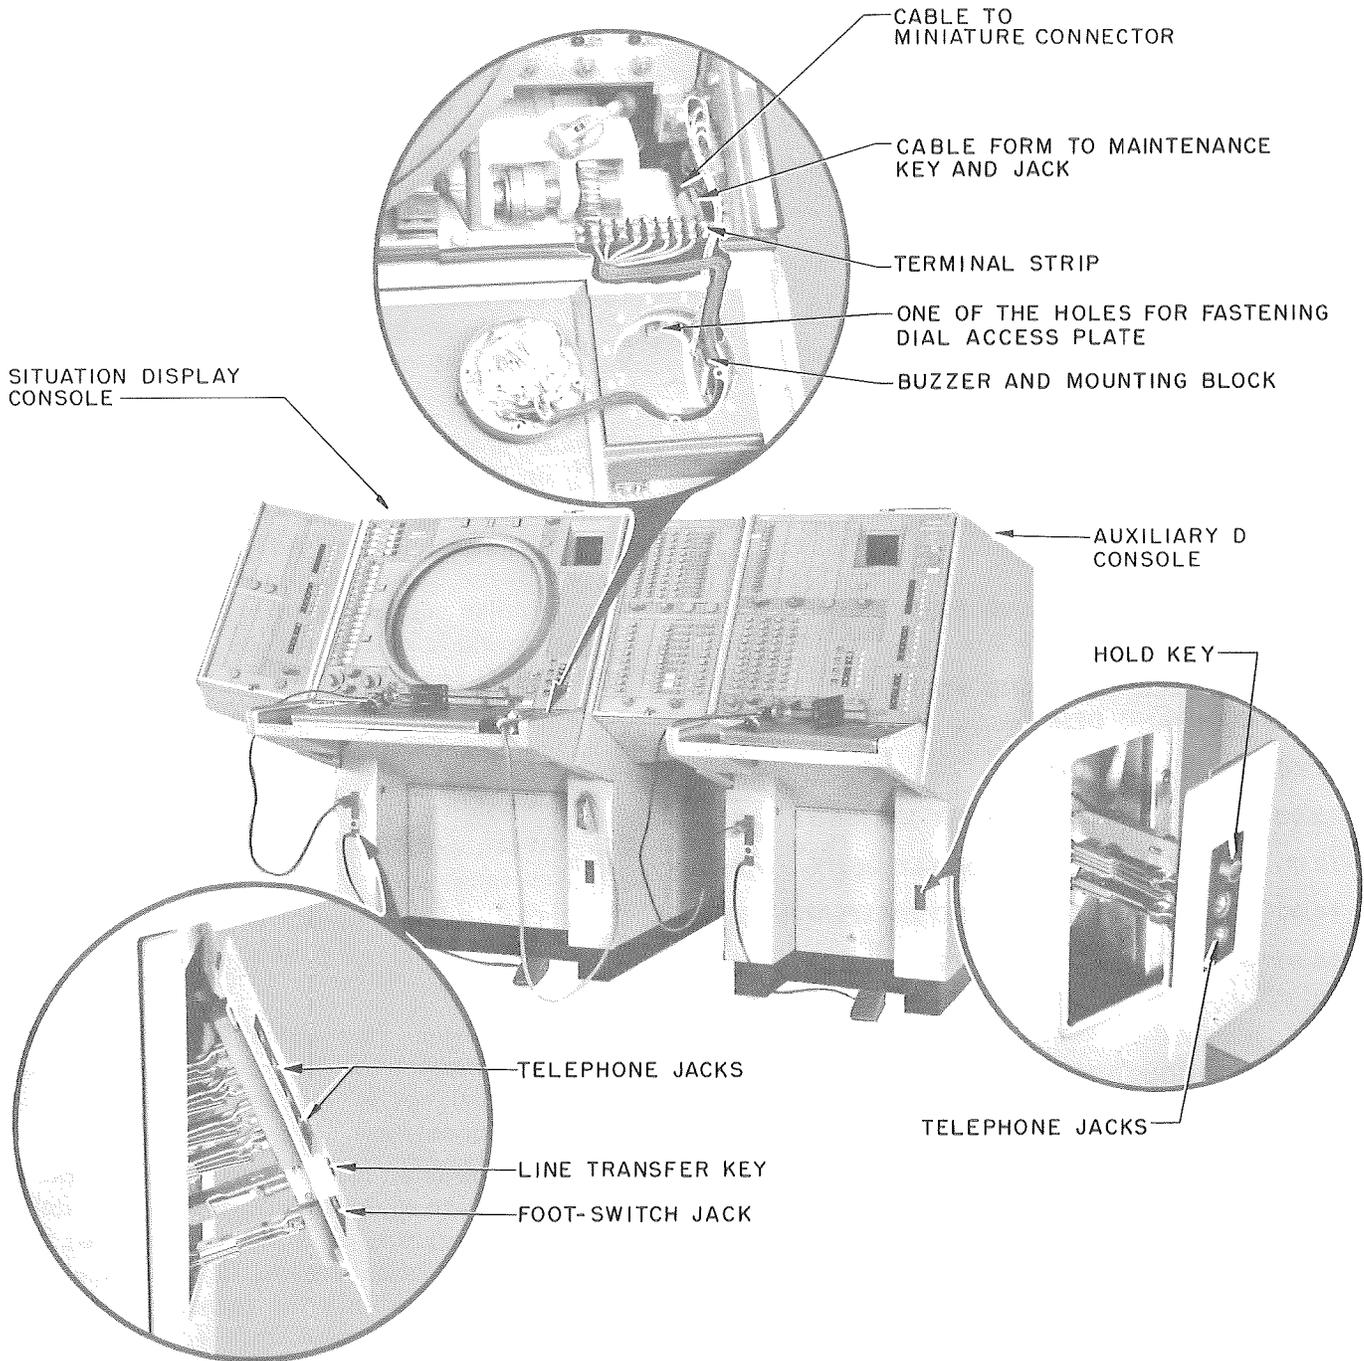

Fig. 1 – Situation Display and Auxiliary D Consoles
in Fig. 1 through 8.
3.04 To remove dial (Fig. 1) :
3.05 Jacks and jack mountings are placed as shown in Fig. 1. The jacks in the front legs
4.00 CONSOLE, AUXILIARY (Fig. 1, 9, 10, 11, 12, 13)
Front view of auxiliary D console is shown in Fig. 1.